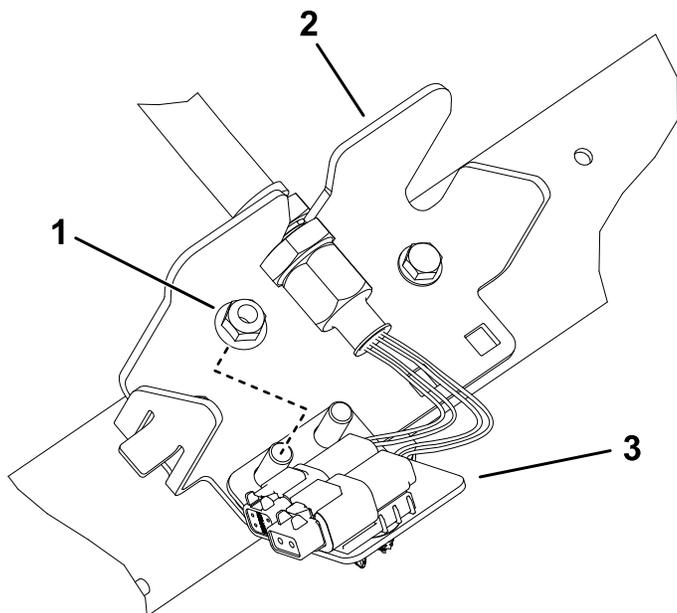

Figure 30
- 6. Repeat the procedure on the remaining 4 bulkhead locations as shown in Figure 27 through Figure 30.